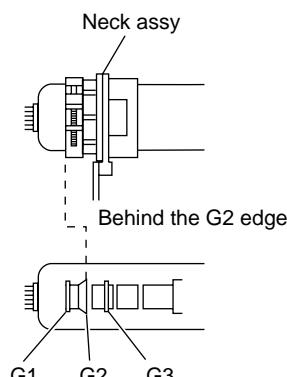

Fig. 3-1
- Position neck assy as shown in Fig3-1.
(See Figures 3-1 through 3-3.)